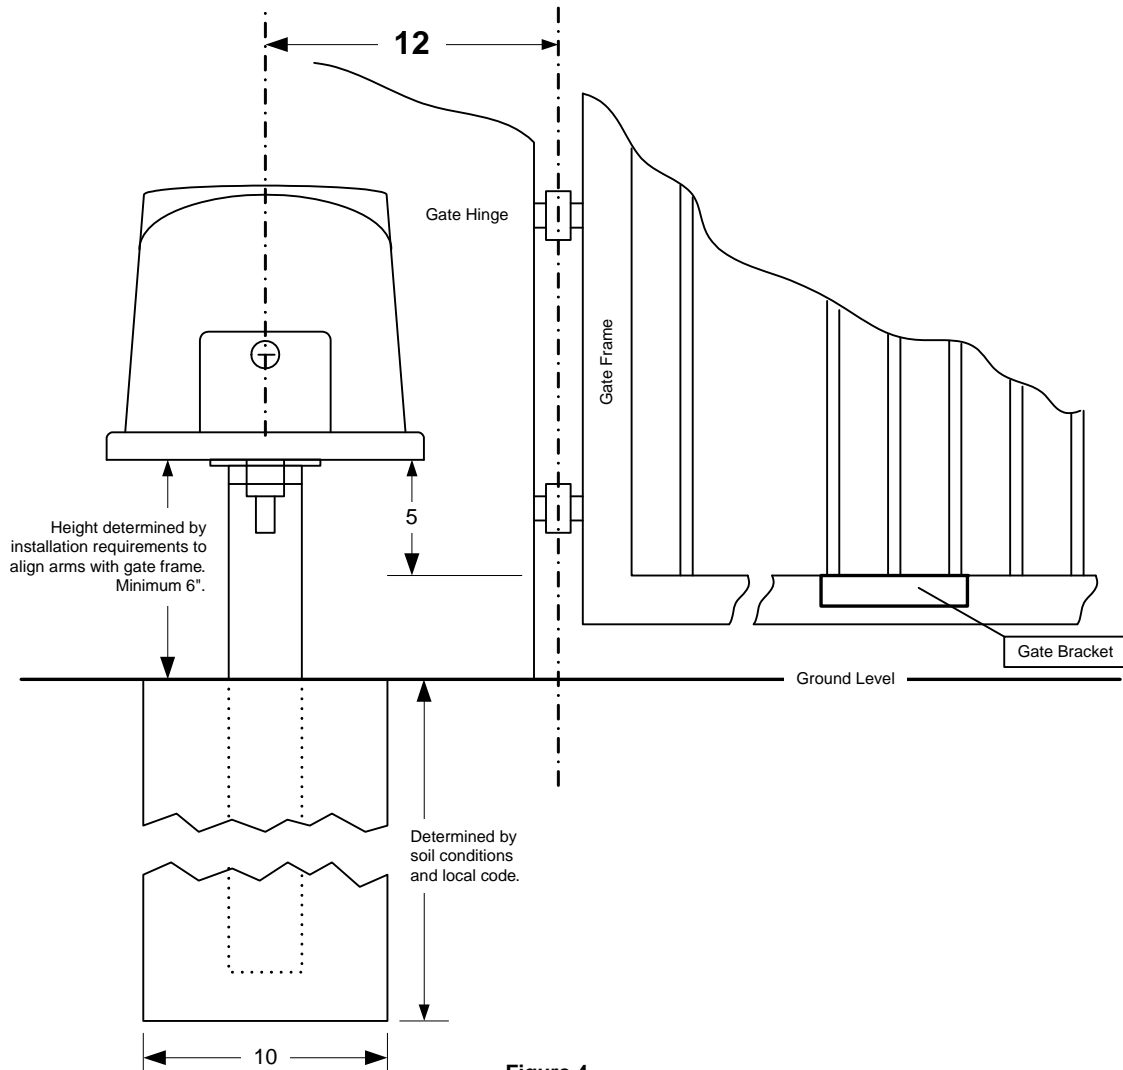
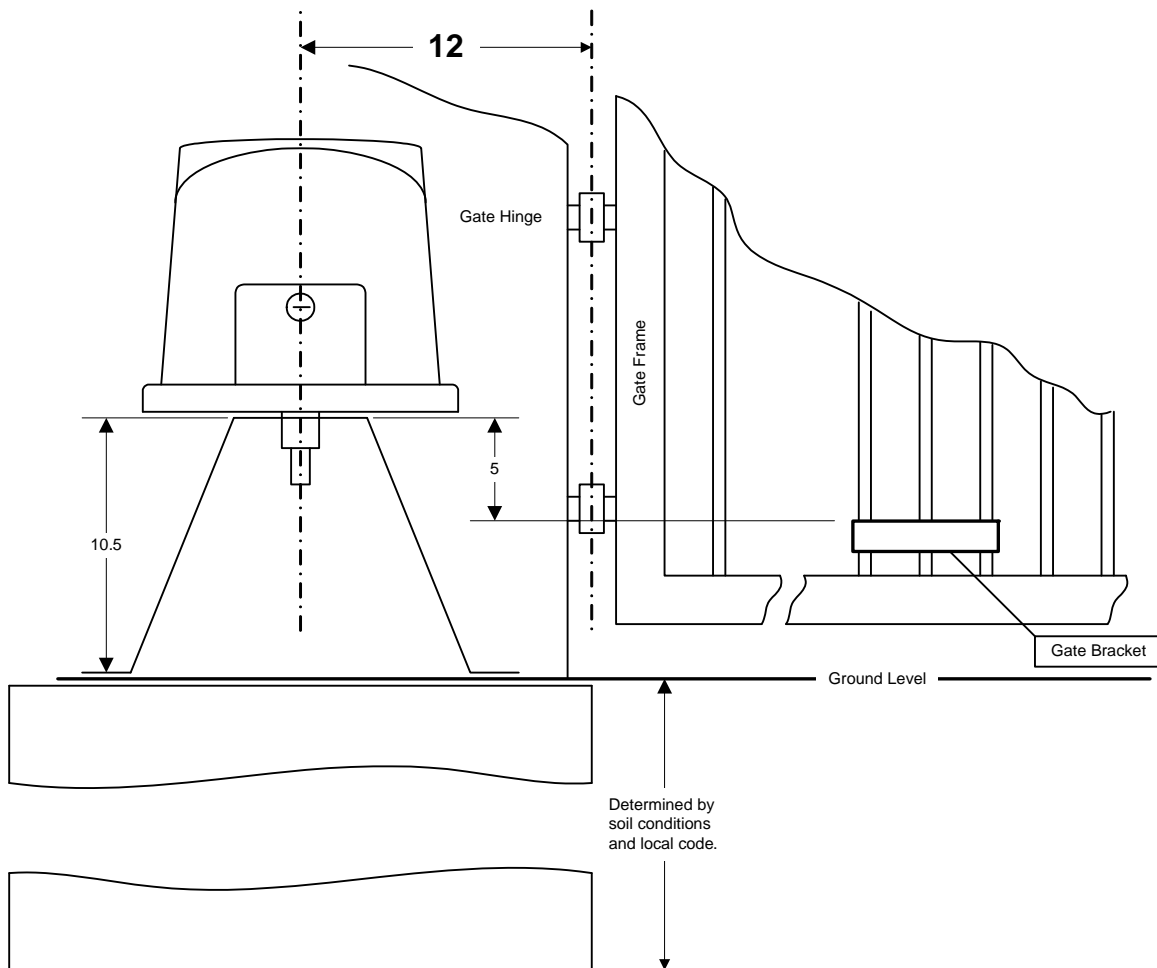
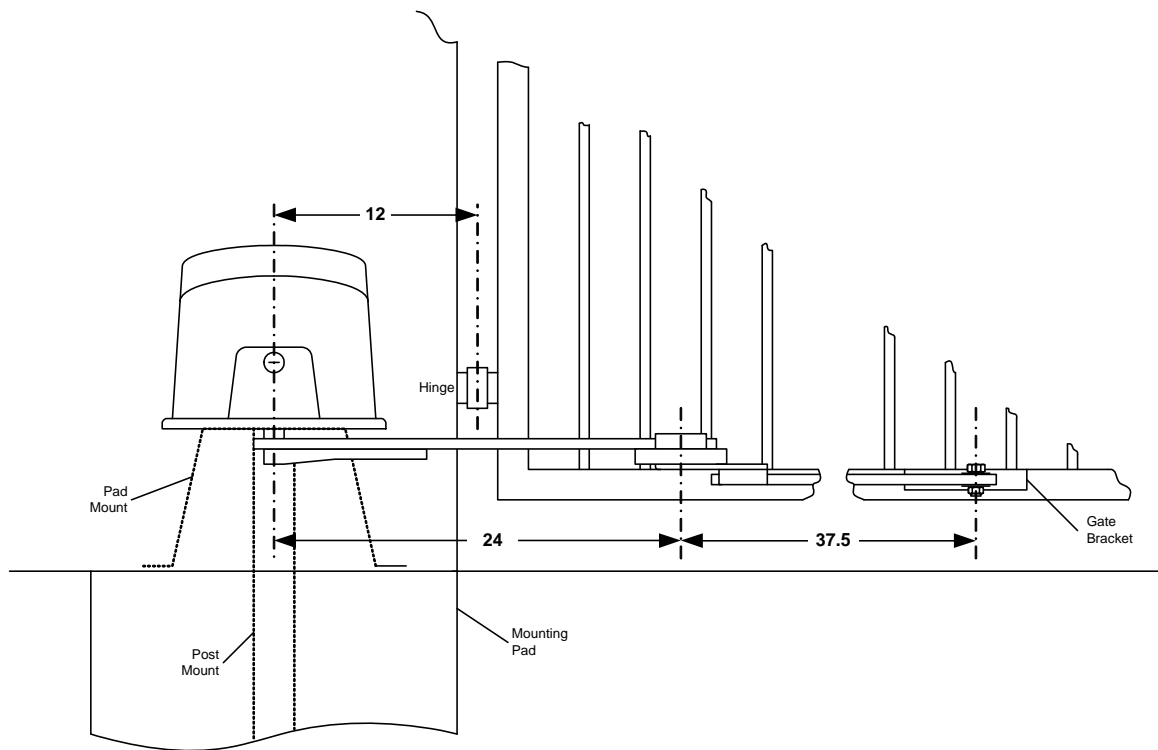

Figure 4
Figure 7
Figure 12
5. Determine the height of the assembly required for your installation. Refer to Figure 4.
- The height requirement is determined by adjusting the mounting plate/post assembly so that the top of the mounting plate is 5 inches above the top of the gate rail (Figure 4). This will allow you to mount the gate bracket onto the bottom rail of the gate and will keep the crank and connecting arms level (see page 8, Figure 12).
- The top of the mounting plate must be at least six (6) inches above the ground. If it is less than this, the gate arms will scrape the ground when the operator starts.
- The concrete pad is sized so that there is a minimum of three (3) inches of concrete around the perimeter of the pad.
- Attach the gate bracket to the gate so that the top of the mounting plate is 5 inches above the top of the gate bracket as shown in Figure 7. This will keep the crank and connecting arms level (see page 8, Figure 12).
- The position of the gate bracket on the gate is directly related to the height of the concrete pad above ground level. If allowed by local codes, the top of the concrete pad can be flush with ground level as shown in Figure 7, which will allow the gate bracket to be lower on the gate.
5. The connector assembly must be positioned on the crank arm at the correct distance from the operator shaft to allow the gate to open a full 90° (refer to figure 12 on the preceding page).